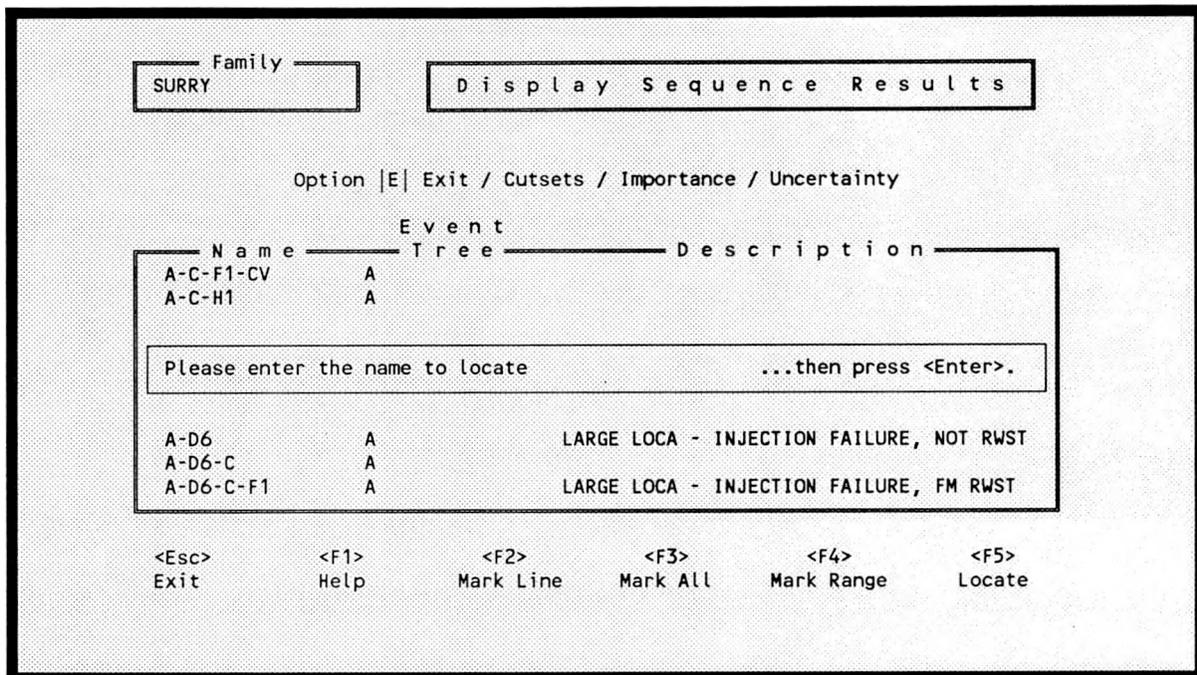

Figure 206. Locate a specific system using <F5>.
- <F5> Locates a specific sequence. When you invoke this option, a screen similar to the one shown in Figure 206 will be displayed. Enter the sequence name you wish to locate and press <Enter>. If the sequence exists, it will be highlighted on the display.